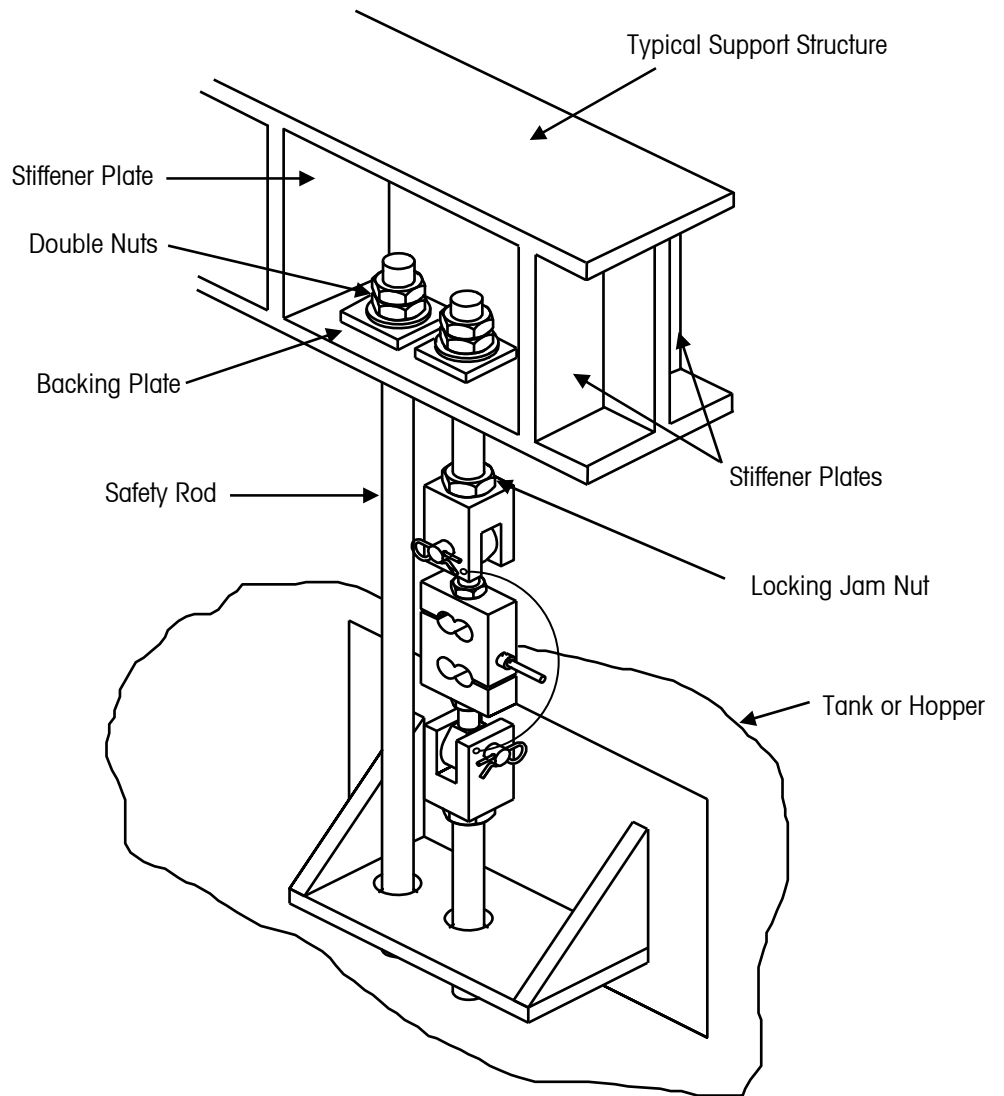

Figure 7-3: Typical Tension Weigh Module Installation
3. Place the threaded rod through a hole in the upper support bracket. Fit a backing plate and washer over the end of the threaded rod. Then double-nut the threaded rod against the backing plate. Attach the other end of the weigh module assembly in the same way (see Figure 7-3).